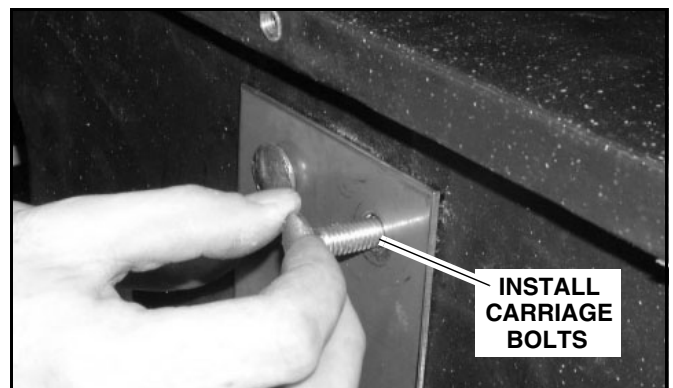

Figure 8
8. Align vibrator backing plate with four holes in motor plate. Install four carriage bolts through backing plate, motor plate and vibrator motor and secure with four nuts (See Figure 8).